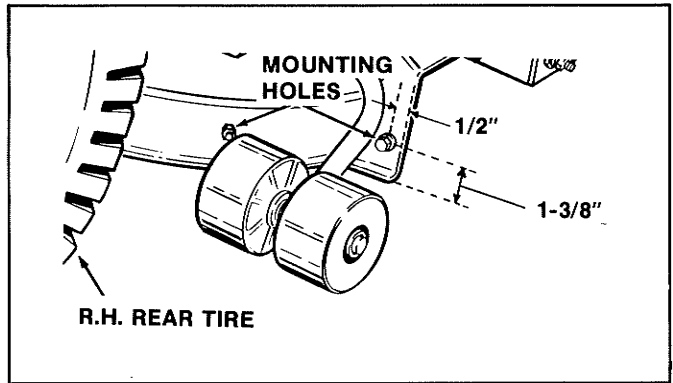

Figure 5.
10. For early model mowers without mounting holes for the baffle, drill a 9/32" hole in housing 1/2" from edge of opening and 1-3/8" from bottom as shown in figure 5. (The second hole will be drilled later).